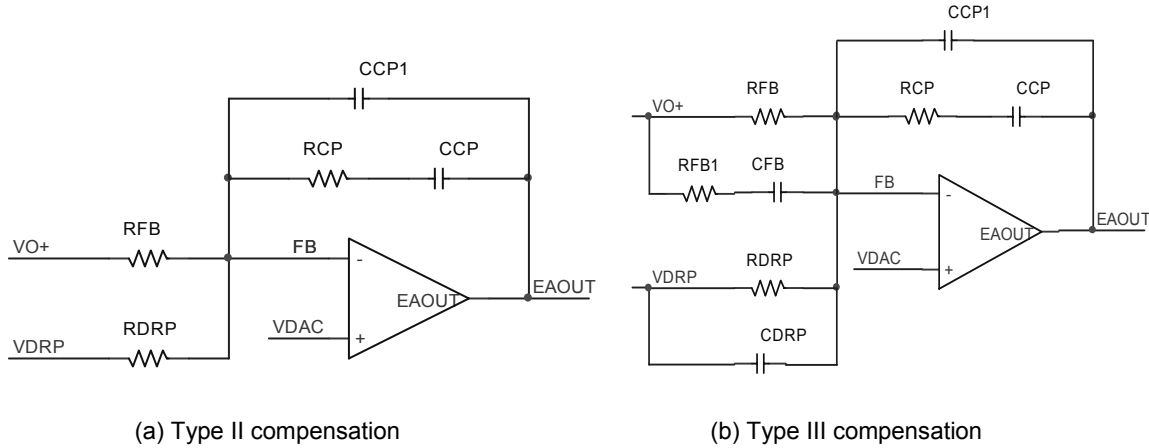

Figure 17. Voltage loop compensation network
Resistors  $R_{FB}$  and  $R_{DRP}$  are chosen according to Equations (16) and (17), and the selection of compensation types depends on the output capacitors used in the converter. For the applications using Electrolytic, Polymer or AL-Polymer capacitors and running at lower frequency, type II compensation shown in Figure 17(a) is usually enough. While for the applications using only ceramic capacitors and running at higher frequency, type III compensation shown in Figure 17(b) is preferred.
For applications where AVP is not required, the compensation is the same as for the regular voltage mode control. For converter using Polymer, AL-Polymer, and ceramic capacitors, which have much higher ESR zero frequency, type III compensation is required as shown in Figure 17(b) with  $R_{DRP}$  and  $C_{DRP}$  removed.